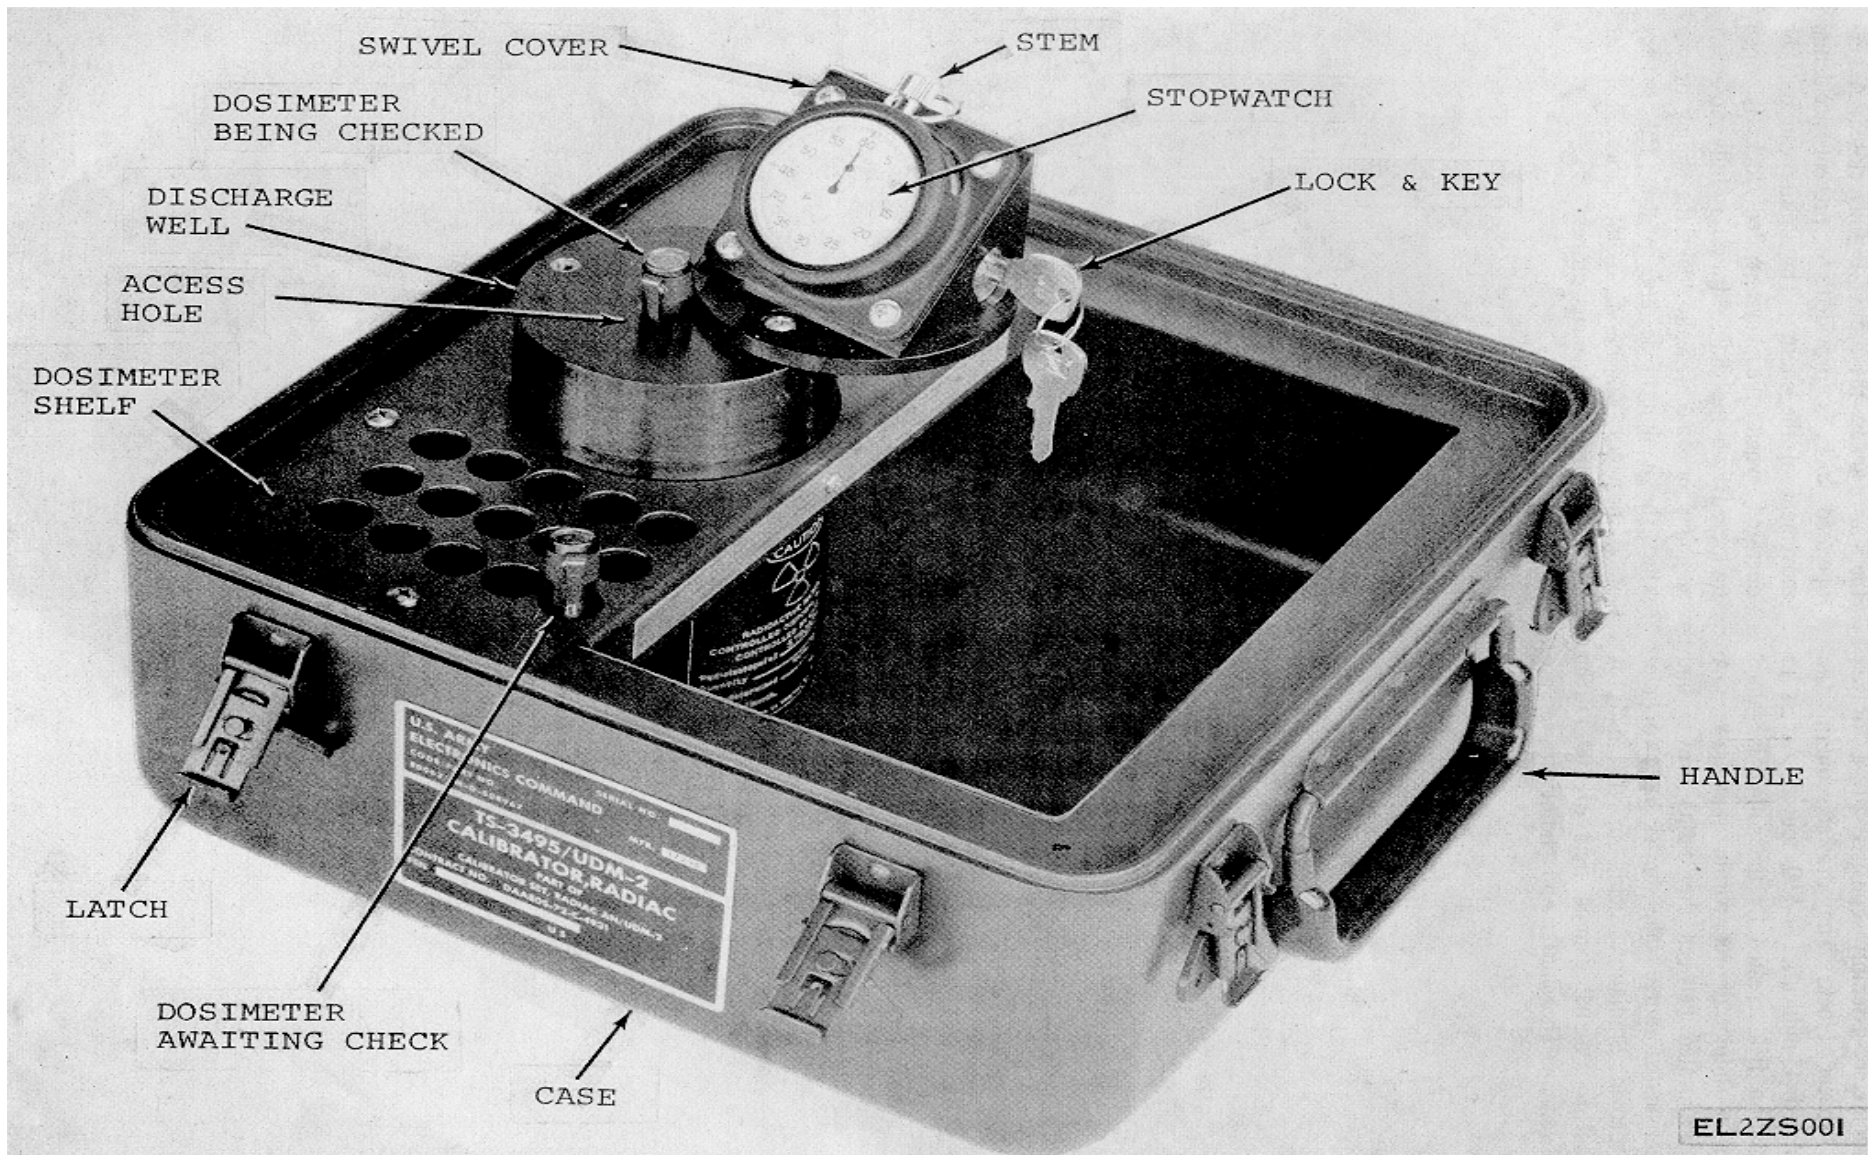

Figure 1-2. Calibrator, Radiac TS-2495/UDM-2
a. Calibrator, Radiac TS-3496/UDM-2 (fig. 1-2). The discharge well assembly consists of a discharge well, a
a. Release the shipping locks of both assemblies (fig. 1-2 and 1-3) by rotating the captive screws counterclockwise. The shipping locks are spring-loaded, will spring outward when fully unscrewed, and will release the latches.
b. On the discharge well assembly (fig. 1-2), check the functioning of the stopwatch (table 3-1).
Radioactive materials are used in this equipment. Read and understand all operational data and procedures in this chapter before using the equipment. Become thoroughly familiar with the contents of TB 11-6665-227-12. Never look directly into the access hole (fig. 1-2) when the swivel cover is swung open; do not poke sharp pointed objects into the access hole. This equipment will be used only under the direction of a Radiation Protection Officer.
Calibrator, Radiac TS-3495/UDM-2 (fig. 1-2):